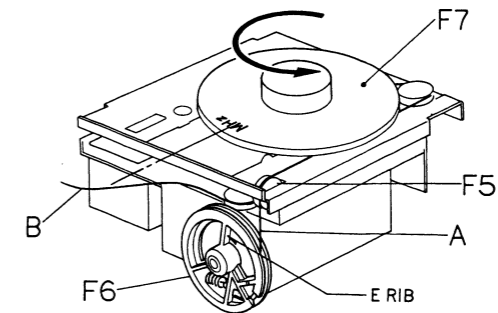
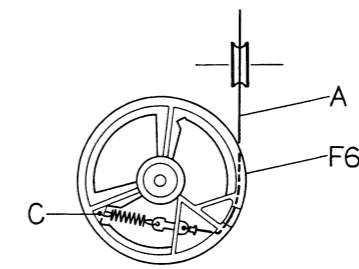

Fig. 5.7.1
Fig. 5.7.2
(8) Refer to Fig. 5.7.1. Turning F7 (dial scale) to extreme CCW position, set "MHz" inscribed on the scale to the position indicated in the figure. (The position where "MHz" corresponds with the tuning point of the panel when the panel is fixed.) At this time, fix F6 (FE pulley) so that the E rib may become approximately vertical as shown in the figure. Referring to Fig. 5.7.2, connect the thread A to the pointer C of F6 via a spring.